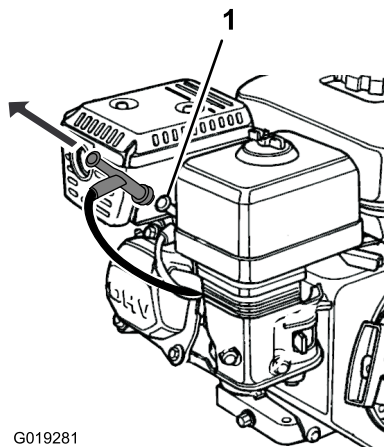

Figure 37
6. Disable the engine; refer to Figure 37.
Pull the spark-plug wire off the terminal of the spark plug (Figure 37).